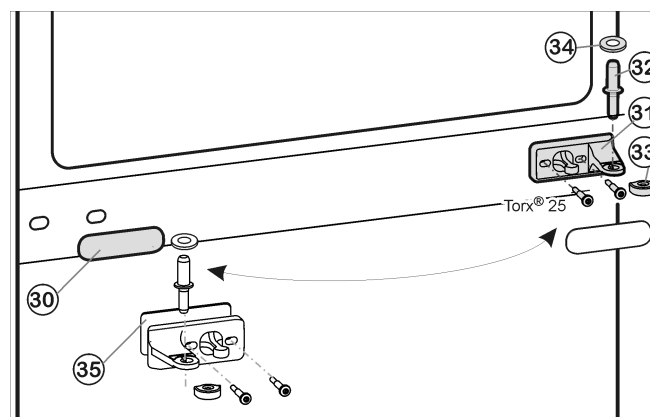
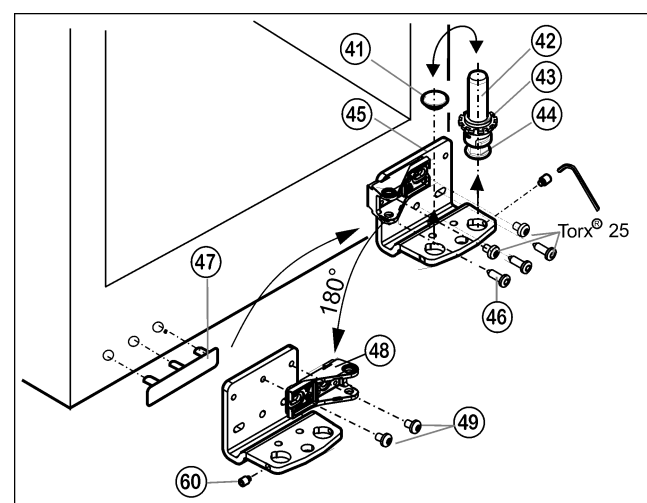

Fig. 11
Fig. 12
- Pull center bearing pin Fig. 11 (32) and disc Fig. 11 (34) out of the bearing bracket and the lower door.
- Remove plastic cap Fig. 11 (33).
- Unscrew center bearing bracket Fig. 11 (31) (2 x Torx® 25).
- Carefully remove cover trim Fig. 11 (30).
- Turn the center bearing bracket Fig. 11 (31) and washer Fig. 11 (35) 180° and secure **tightly (to 4 Nm)** on the new hinge side.
- Turn the cover trim Fig. 11 (30) 180° and snap it back into place on the new handle side.
- Unscrew grub screw Fig. 12 (60) by approx. 1 turn using the socket wrench supplied.
- ▶ Unscrew the bearing pin *Fig. 12 (42)*, with disc *Fig. 12 (43)* and positioning foot *Fig. 12 (44)*, in an upwards direction.
- ▶ Lift off plug *Fig. 12 (41)*.
- ▶ Unscrew *Fig. 12 (46)* bearing bracket *Fig. 12 (45)*.
- ▶ Completely unscrew the grub screw *Fig. 12 (60)* and screw it into the opposite side of the bearing bracket until it is externally flush with the bearing bracket.
- ▶ Unscrew bearing part *Fig. 12 (48)*, turn it 180° and tighten *Fig. 12 (49)* it to the inside.
- ▶ Insert plug *Fig. 12 (41)* back into the other hole.
- ▶ Carefully lift off the cover on the handle side *Fig. 12 (47)* and move it to the opposite side.
- ▶ Using a cordless screwdriver if necessary, again secure the bearing bracket *Fig. 12 (45)* on the new hinge side **tightly (to 4 Nm)**.
- ▶ Screw complete bearing pin *Fig. 12 (42)*, with disc and positioning foot, back into place again.
- ▶ Tighten grub screw *Fig. 12 (60)*.
- ▶ Position the lower door from above onto the lower bearing pins *Fig. 12 (42)*.
- ▶ Place the plastic cap *Fig. 11 (33)* back onto the center bearing bracket *Fig. 11 (31)*.
- ▶ Insert the center bearing pin *Fig. 11 (32)* on the new hinge side through the center bearing bracket *Fig. 11 (31)* into the lower door.
- ▶ Place disc *Fig. 11 (34)* onto the center bearing pin *Fig. 11 (32)*.
- ▶ Place the upper door onto the center bearing pin *Fig. 11 (32)*.
- ▶ Align the doors flush with the appliance housing, using the two oblong holes in the lower bearing bracket *Fig. 12 (45)* and in the center bearing bracket *Fig. 11 (31)* as a guide, if needed. To do so, unscrew the center screw on the lower bearing bracket *Fig. 12 (45)*.